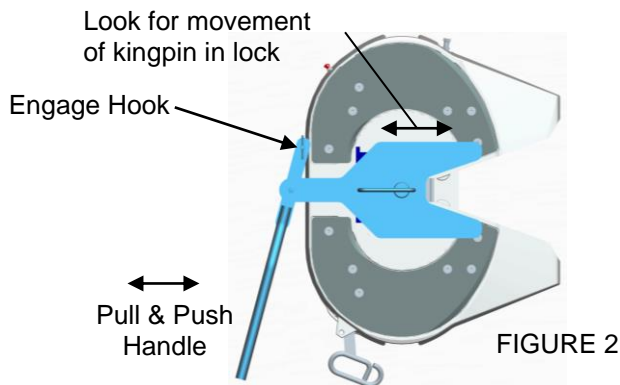

FIGURE 2
2. The lock is too loose if: You feel fore-aft play when pulling and pushing on the lock tester handle (see figure 2)